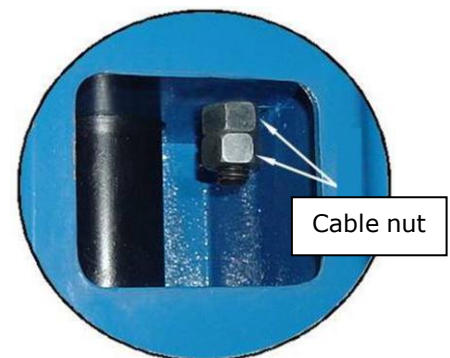

Fig. 56
1. Adjustment of synchronous cable (See Fig. 56)